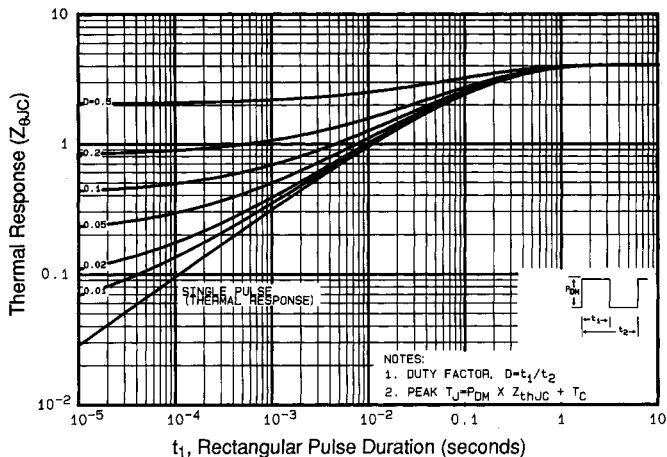

Fig 11. Maximum Effective Transient Thermal Impedance, Junction-to-Case
- ① Repetitive rating; pulse width limited by max. junction temperature (See Figure 11) ③ $I_{SD} \leq 2.1A$, $di/dt \leq 50A/\mu s$, $V_{DD} \leq V_{(BR)DSS}$, $T_J \leq 150^\circ\text{C}$ ⑤ $t=60s$, $f=60Hz$